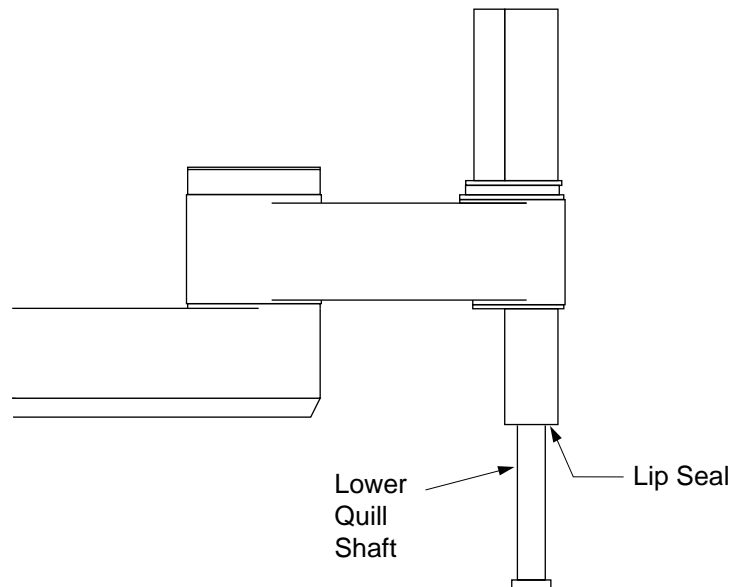

Figure 5-2. Lower Quill Shaft and Lip Seal Location
3. The Joint 3 seal is a soft, rubber lip seal located as shown in Figure 5-2. Gently insert the tip of the syringe applicator underneath the seal and apply grease around the entire circumference of the shaft.